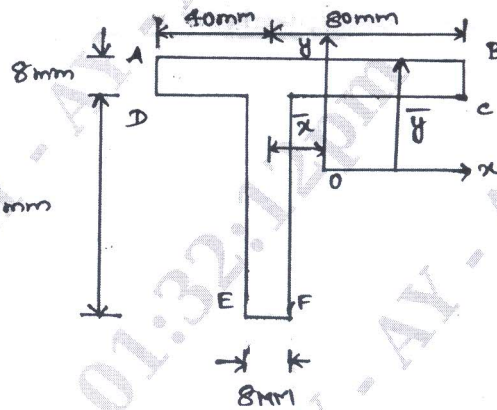

Fig Q2(b)
- b. A beam having cross section as shown in Fig Q2(b), is subjected to a bending moment of 1500Nm in a vertical plane. Calculate the maximum direct stress due to bending stating the point at which it acts.